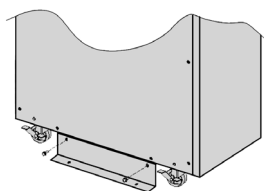

Fig. 12.
- ❑ Remove the screws that fix the equipment to the pallet by means of the support [see Fig. 12 and 13].